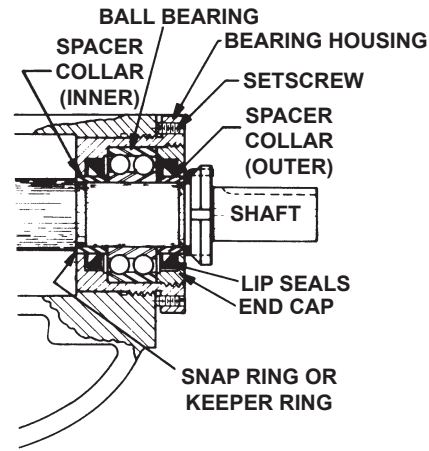

FIGURE 22
3. Examine the lip seal in the bearing housing and end cap. These lip seals are important to the assembly and should be replaced if not in first class condition. They are a grease seal for the ball bearing and also act as a shield to keep dirt and other abrasive particles from entering the bearing. When installing new lip seals, be sure they are assembled with the lips facing toward the shaft end. See figure 22.
NOTE: First replace the snap ring or keeper rings if furnished in your pump. See figure 22.